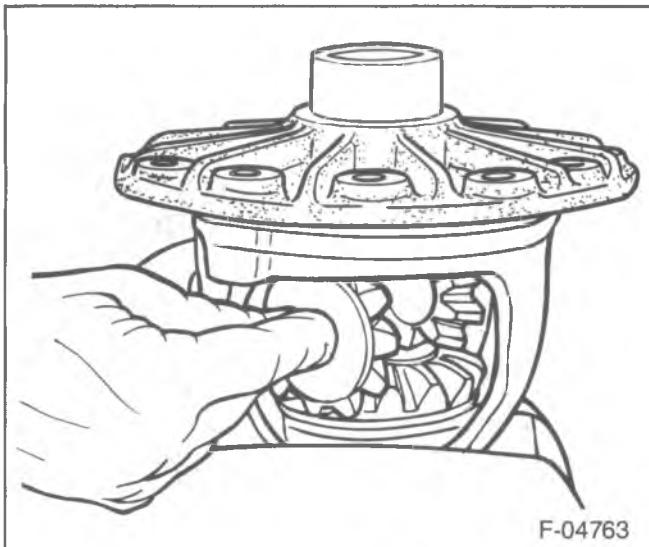

Figure 99—Installing the Pinion Gears
1. New side gear thrust washers (27) to the side gears (25).
2. Side gears (25) to the differential case.
- Place the side gears in place on the same side as removed (figure 99).
3. Pinion gears (24) to the differential without the thrust washers (26).